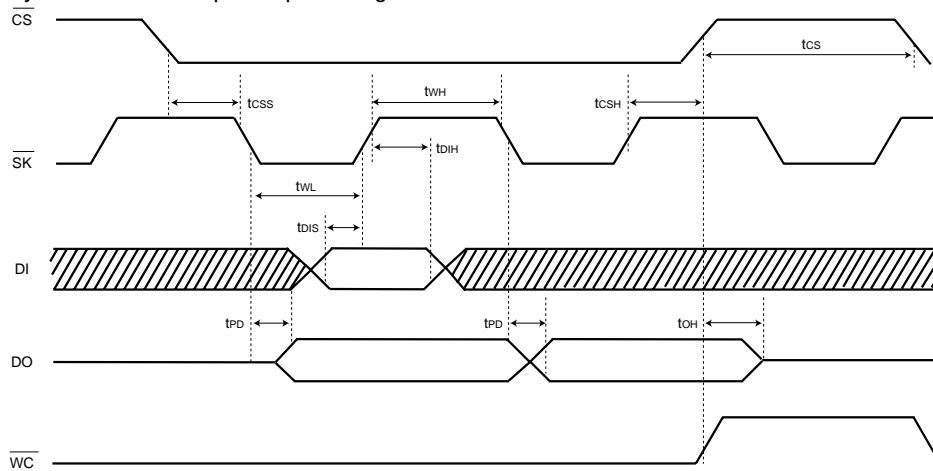

Fig.1
- 1) On the falling edge of 16th clock, the data stored in the specified address (n) is clocked out of the DO pin. The Output DO is toggled after the internal propagation t_{PD0} or t_{PD1} on the falling edge of \overline{SK} . During t_{PD0} or t_{PD1} , the data is the previous data or unstable, and to take in the data, t_{PD} is needed. (Refer to Fig.1 Synchronous data input output timing.)
(4) Write Cycle